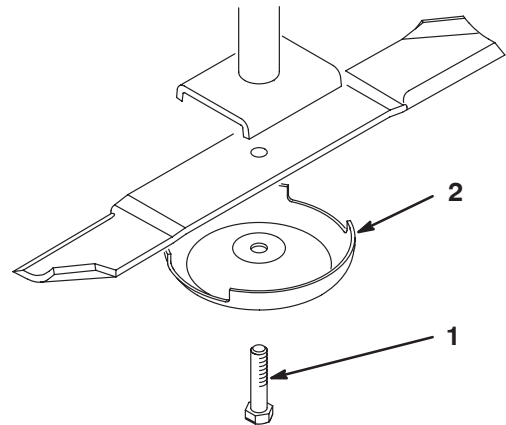

Figure 26
2. Grasp the end of the blade using a rag or thickly padded glove. Remove the blade bolt, anti-scalp cup, and blade from the spindle shaft (Fig. 26).